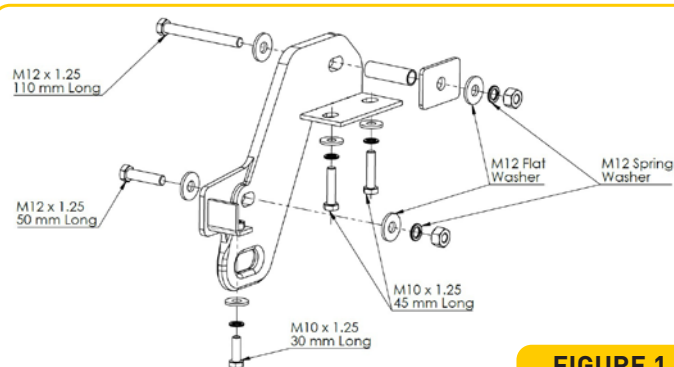

FIGURE 1
1. Fit hardware as shown in figure 1